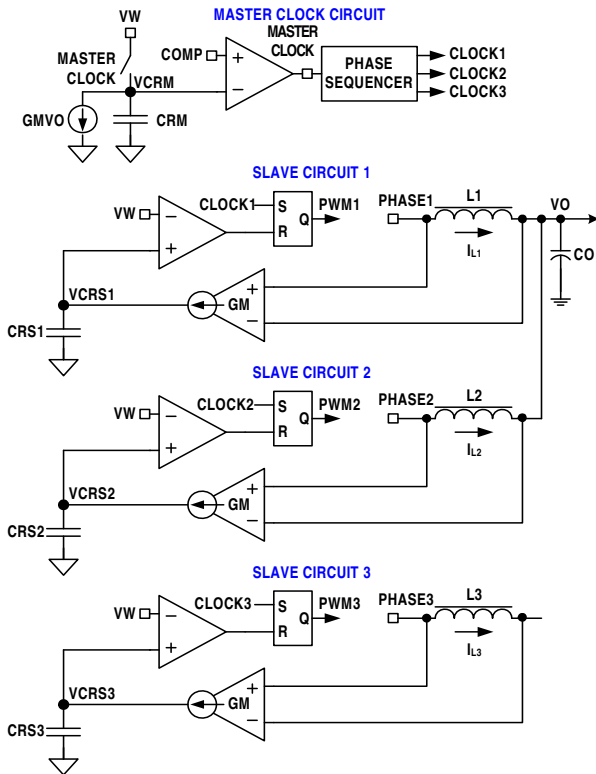
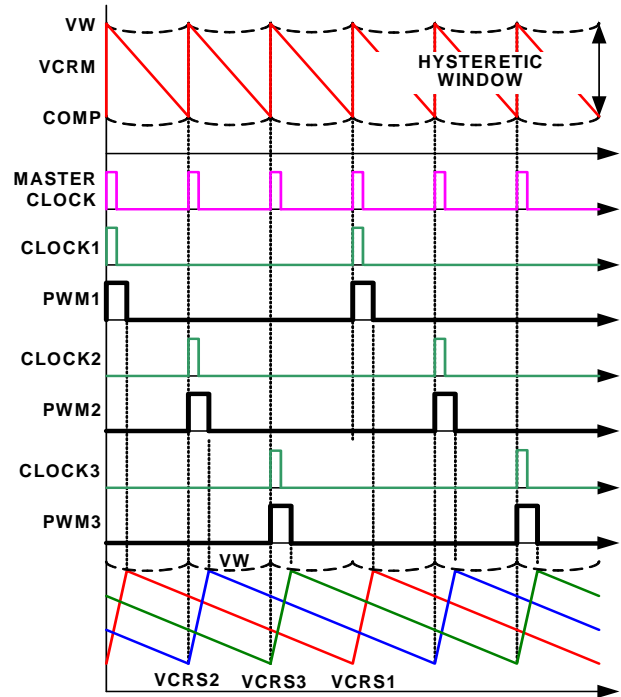

FIGURE 6. R³™ MODULATOR CIRCUIT
FIGURE 7. R³™ MODULATOR OPERATION PRINCIPLES IN STEADY STATE
The ISL62771 is a multiphase regulator implementing two voltage regulators, CORE VR and Northbridge (NB) VR, on one chip controlled by AMD's™ SVI2™ protocol. The CORE VR can be programmed for 1- or 2-phase operation. The Northbridge VR only supports 1-phase operation. Both regulators use the Intersil patented R³™ (Robust Ripple Regulator) modulator. The R³™ modulator combines the best features of fixed frequency PWM and hysteretic PWM while eliminating many of their shortcomings. Figure 6 conceptually shows the multiphase R³™ modulator circuit, and Figure 7 shows the operation principles.